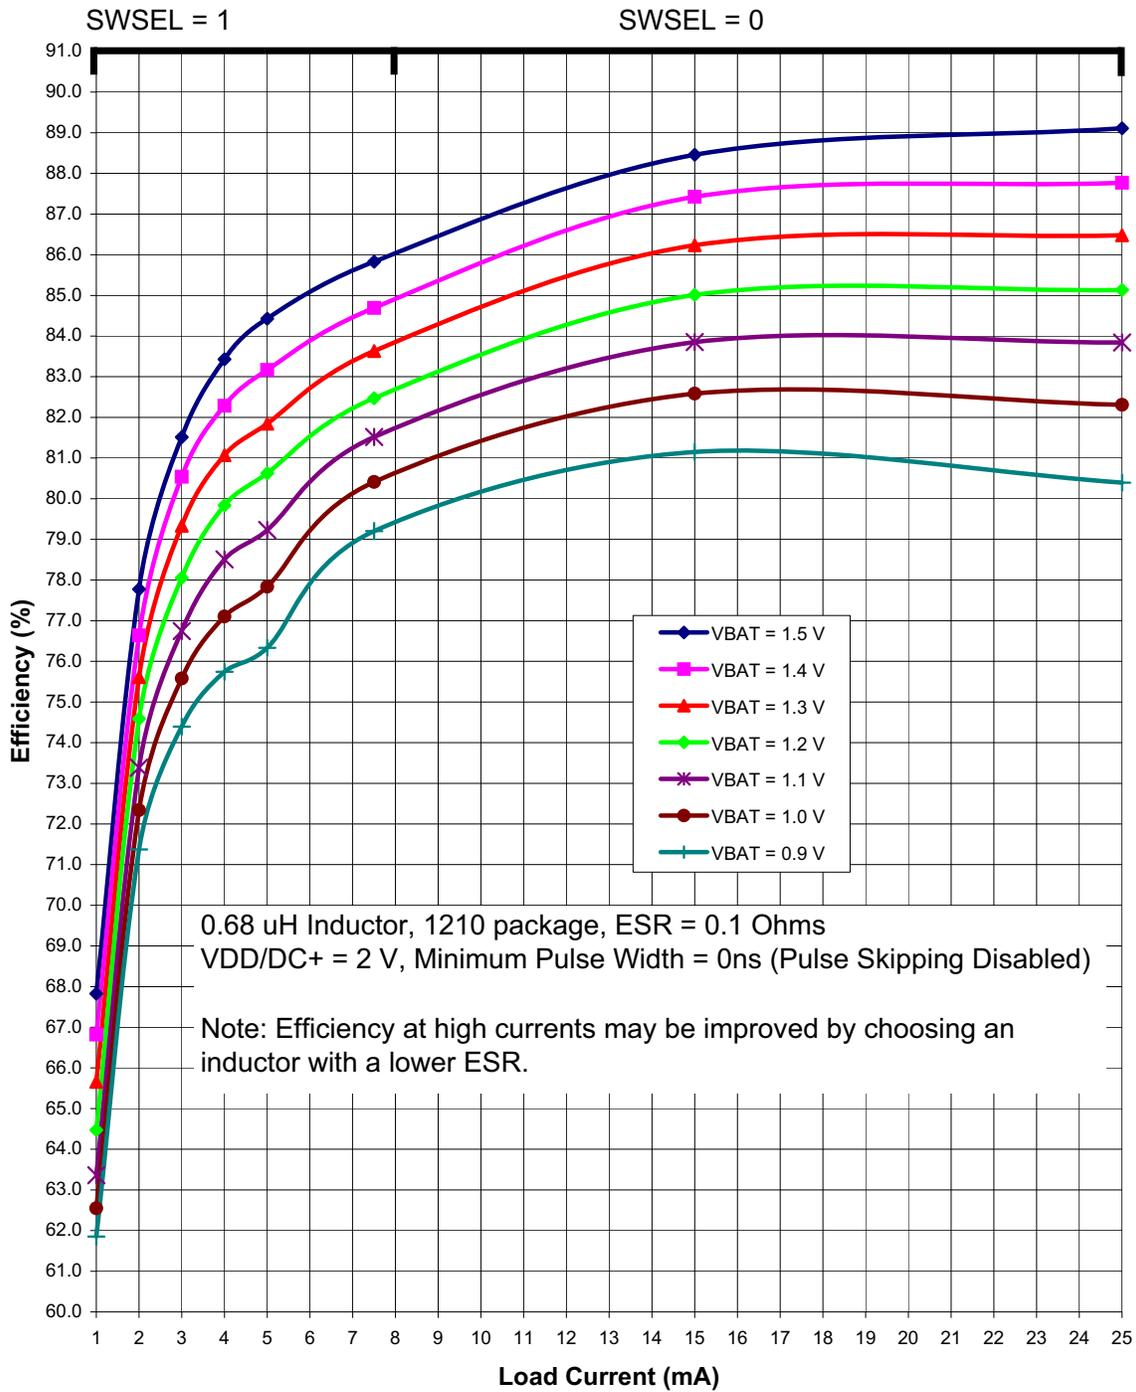
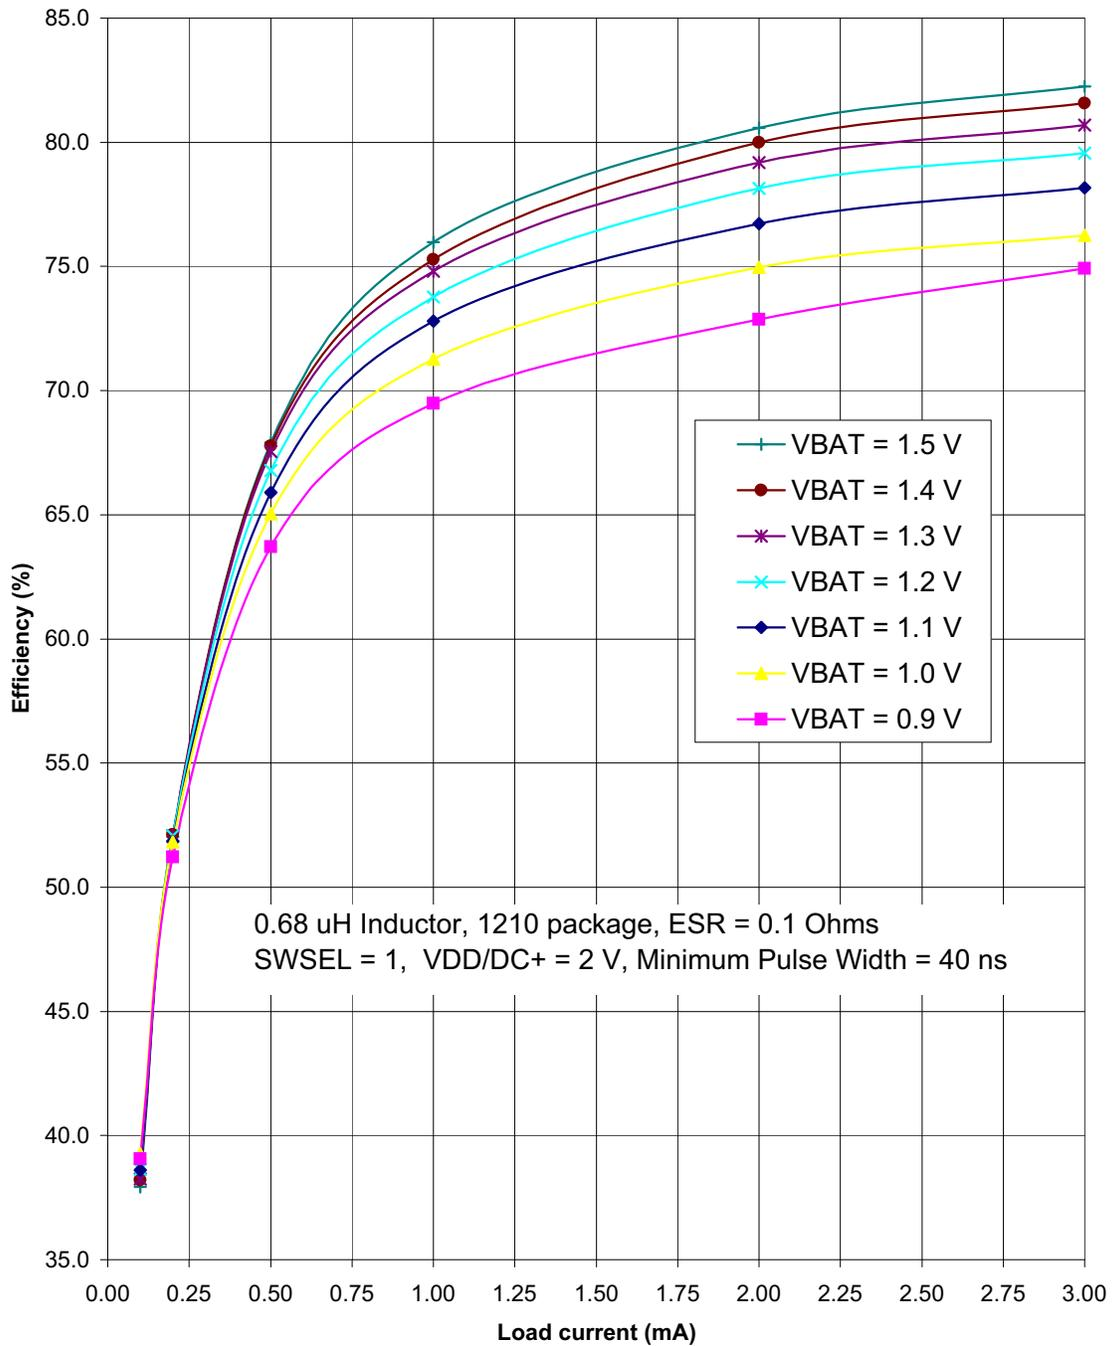

Figure 4.3. Typical DC-DC Converter Efficiency (High Current, VDD/DC+ = 2 V)
Figure 4.5. Typical DC-DC Converter Efficiency (Low Current, VDD/DC+ = 2 V)
| <ol style="list-style-type: none"> <li>Based on device characterization data; Not production tested.</li> <li>SYSCLK must be at least 32 kHz to enable debugging.</li> <li>Digital Supply Current depends upon the particular code being executed. The values in this table are obtained with the CPU executing an "sjmp \$" loop, which is the compiled form of a while(1) loop in C. One iteration requires 3 CPU clock cycles, and the flash memory is read on each cycle. The supply current will vary slightly based on the physical location of the sjmp instruction and the number of flash address lines that toggle as a result. In the worst case, current can increase by up to 30% if the sjmp loop straddles a 128-byte flash address boundary (e.g., 0x007F to 0x0080). Real-world code with larger loops and longer linear sequences will have few transitions across the 128-byte address boundaries.</li> <li>Includes oscillator and regulator supply current.</li> <li>IDD can be estimated for frequencies <math>\leq 10</math> MHz by simply multiplying the frequency of interest by the frequency sensitivity number for that range, then adding an offset of 90 <math>\mu</math>A. When using these numbers to estimate <math>I_{DD}</math> for <math>&gt;10</math> MHz, the estimate should be the current at 25 MHz minus the difference in current indicated by the frequency sensitivity number. For example: <math>V_{DD} = 3.0</math> V; <math>F = 20</math> MHz, <math>I_{DD} = 4.1</math> mA – <math>(25 \text{ MHz} - 20 \text{ MHz}) \times 0.120 \text{ mA/MHz} = 3.5</math> mA.</li> <li>The Supply Voltage is the voltage at the VDD_MCU pin, typically 1.8 to 3.6 V (default = 1.9 V). Idle IDD can be estimated by taking the current at 25 MHz minus the difference in current indicated by the frequency sensitivity number. For example: <math>V_{DD} = 3.0</math> V; <math>F = 5</math> MHz, Idle <math>I_{DD} = 2.5</math> mA – <math>(25 \text{ MHz} - 5 \text{ MHz}) \times 0.095 \text{ mA/MHz} = 0.6</math> mA.</li> <li>The supply current specifications in Table 4.2 are for two cell mode. The VBAT current in one-cell mode can be estimated using the following equation:           <math display="block">\text{VBAT Current (one-cell mode)} = \frac{\text{Supply Voltage} \times \text{Supply Current (two-cell mode)}}{\text{DC-DC Converter Efficiency} \times \text{VBAT Voltage}}</math> <p>The VBAT Voltage is the voltage at the VBAT pin, typically 0.9 to 1.8 V.           The Supply Current (two-cell mode) is the data sheet specification for supply current.           The Supply Voltage is the voltage at the VDD/DC+ pin, typically 1.8 to 3.3 V (default = 1.9 V).           The DC-DC Converter Efficiency can be estimated using Figure 4.3–Figure 4.5.</p> </li> <li>The EZRadioPRO peripheral is placed in Shutdown mode.</li> </ol> |                |     |     |     |      |